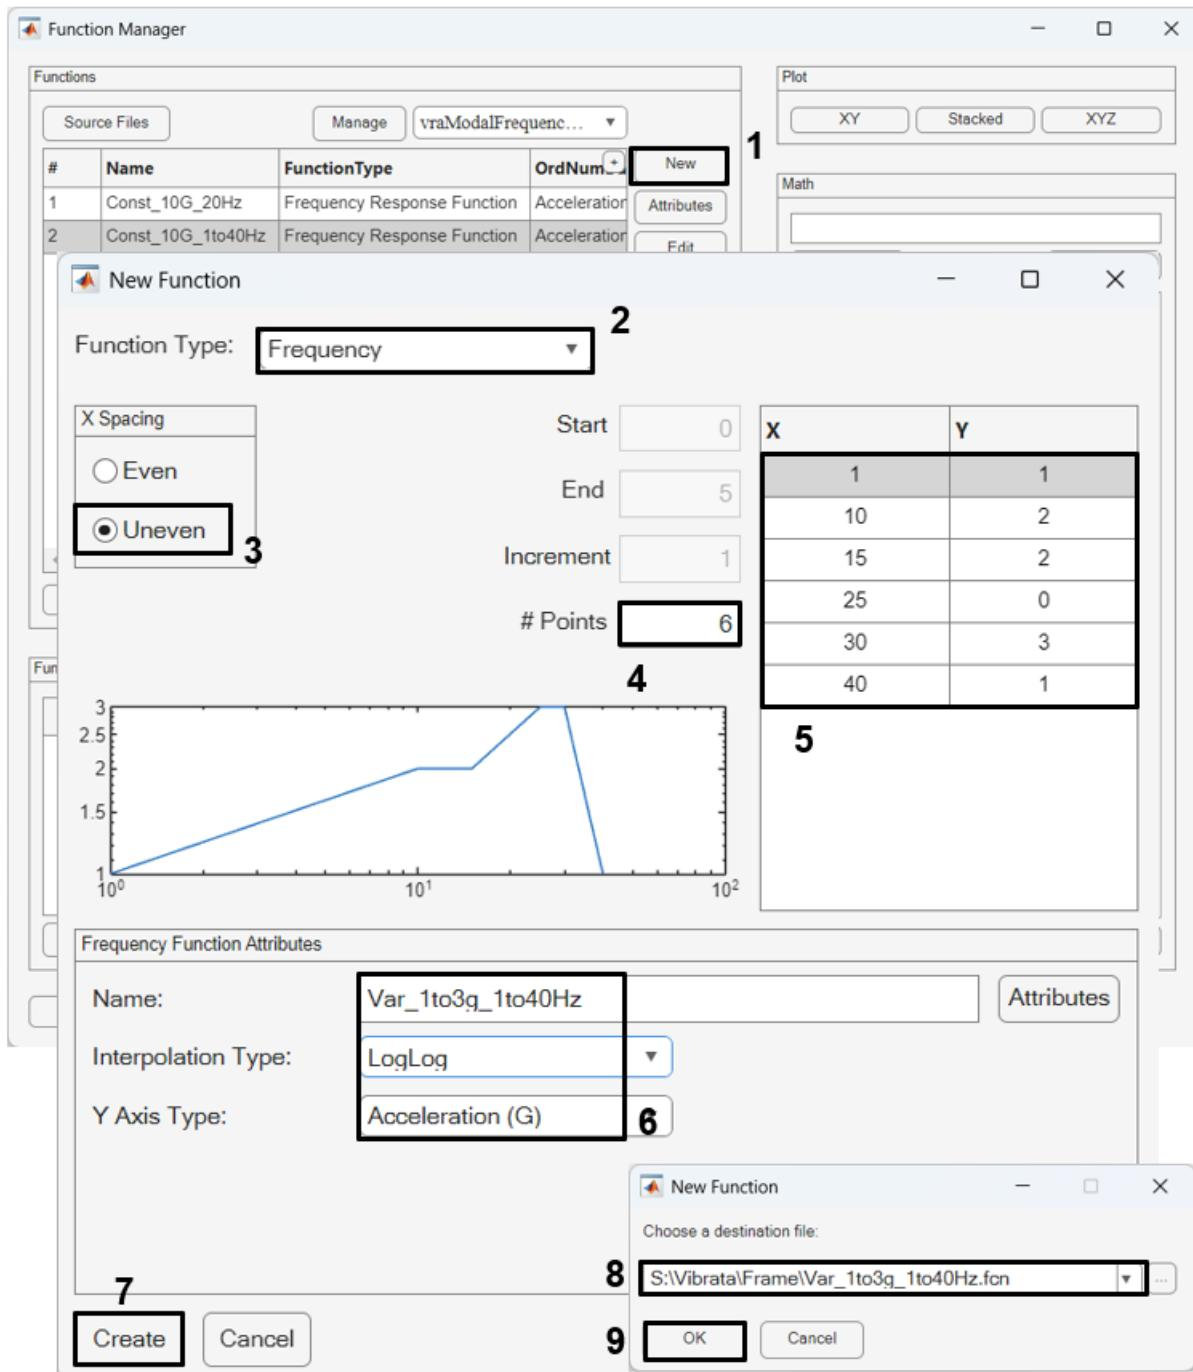

Figure 4-30. Make the function uneven and give it non-constant amplitude.
d. With the Function Manager still open, create a new acceleration function that is not constant. Use the values shown in Figure 4-30. Be sure to name it as shown and set its interpolation method to *LogLog*. We will use this function in the second part of this example.